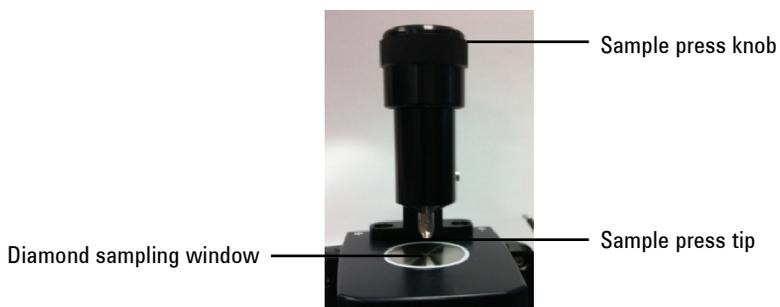

Figure 5. Diamond ATR accessory sample press in highest position
In the sample loading and cleaning mode, the sample press should be in the highest position, so the sample press tip is well above the diamond sampling window (see Figure 5). It is in this position that the sample mounting area can be easily accessed for loading the sample into place and for cleaning the sampling surfaces before the next sample is analyzed.
- 1 Open the sample press by rotating the top knob counterclockwise until the top of the press travel is reached (see Figure 5).
- 1 Turn the sample press knob in a counterclockwise direction to open the sample press so that the tip is elevated slightly from the diamond sampling window (see Figure 5).